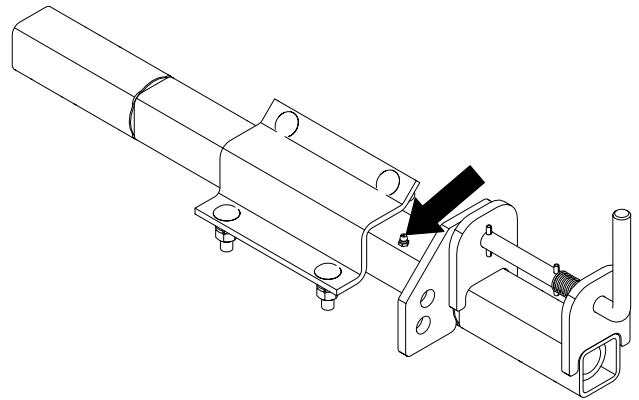

Figure 27 Flip UP Dual Disk Mounting Tube Zerks
2. Lubricate flip up mounting tubes (Figure 27)